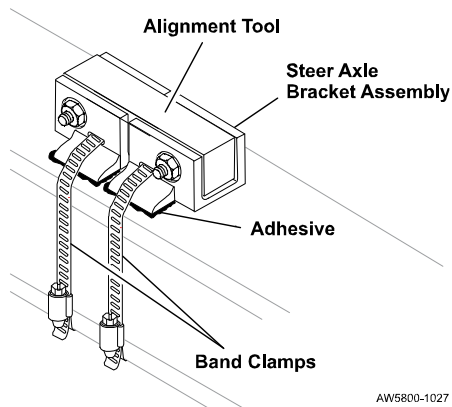

Figure 10. Placing Brackets on the Steer Axle
4. Place a band clamp (p/n: 139-0016-000) through the slot in the bottom of each bracket and wrap the band clamp around steer axle. See Figure 10.